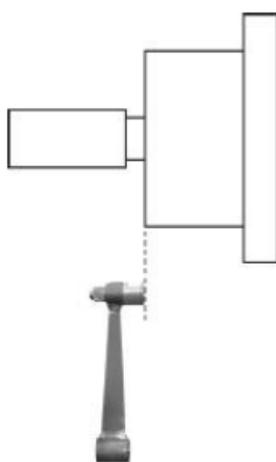

fig. 18.1.
To evaluate the inaccuracies in measurement of the distance, pull out the gauge and press the side surface of its handle against the back end of the shaft flange, as shown on the fig. 18.1.
the side surface of its handle against the back end of the shaft flange, as shown on the fig. 18.1 and press the button «ENTER». The item 2 «Insert the distance handle into the position 1 and press ENTER button» in the window «DISTANCE CALIBRATION» will be highlighted.